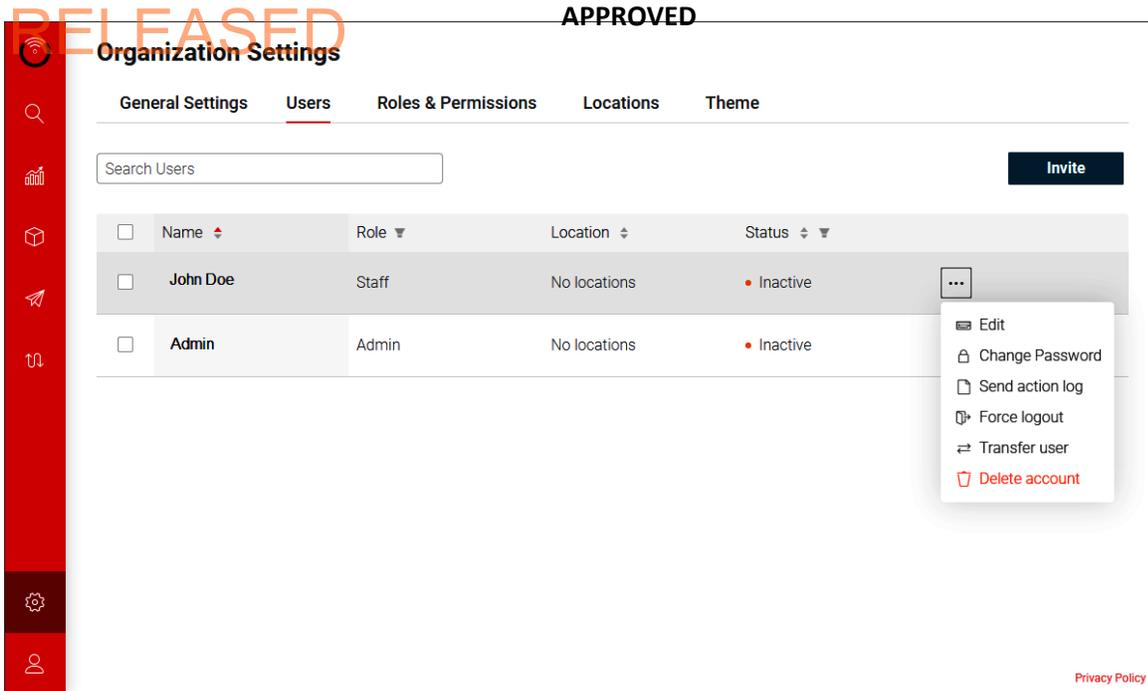

Figure 65. User Setting Menu
3. Click on the “Settings” menu and select “Users” on the top menu. See **Figure 65**.